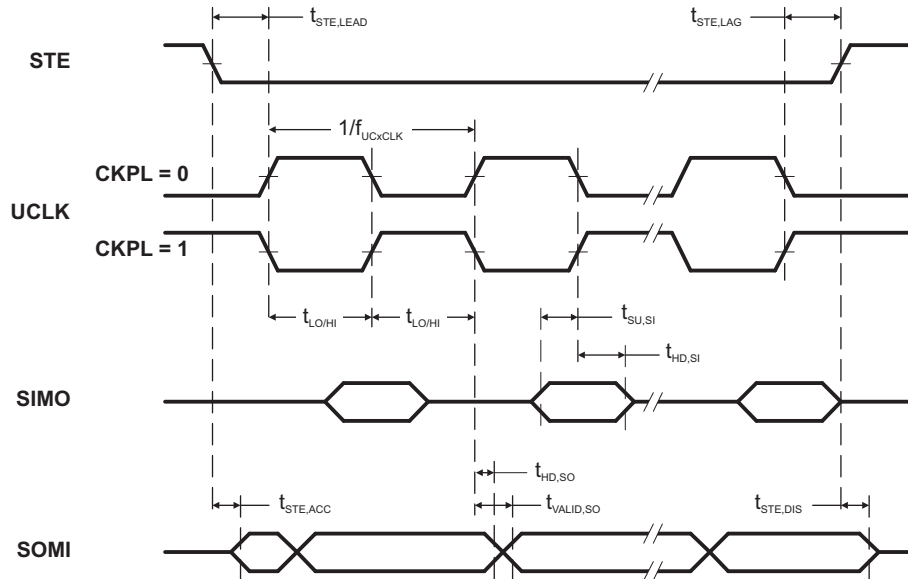
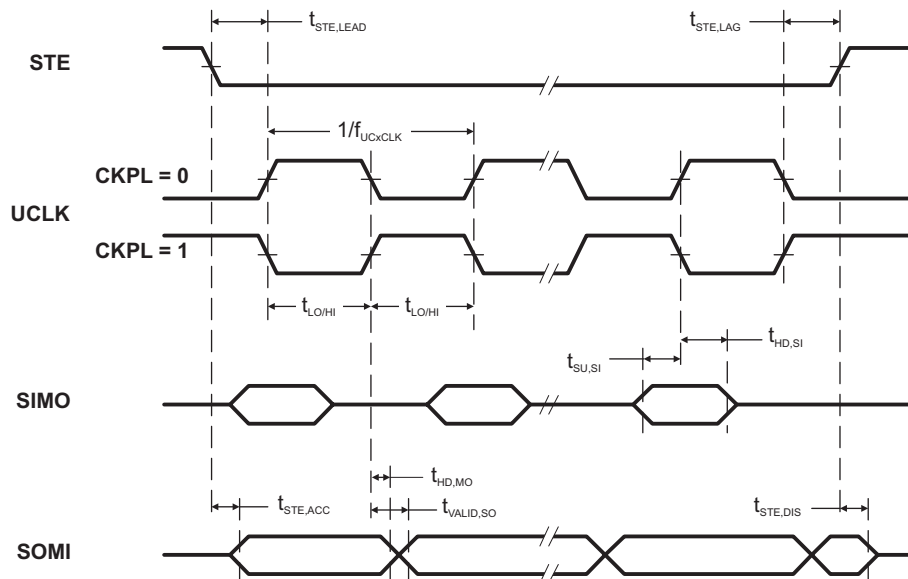

Figure 14. SPI Slave Mode, CKPH = 0
Figure 15. SPI Slave Mode, CKPH = 1
(see Note (1), Figure 14 and Figure 15)
- (2) Specifies the time to drive the next valid data to the SOMI output after the output changing UCLK clock edge. See the timing diagrams in Figure 14 and Figure 15.
- (3) Specifies how long data on the SOMI output is valid after the output changing UCLK clock edge. See the timing diagrams in Figure 14 and Figure 15.